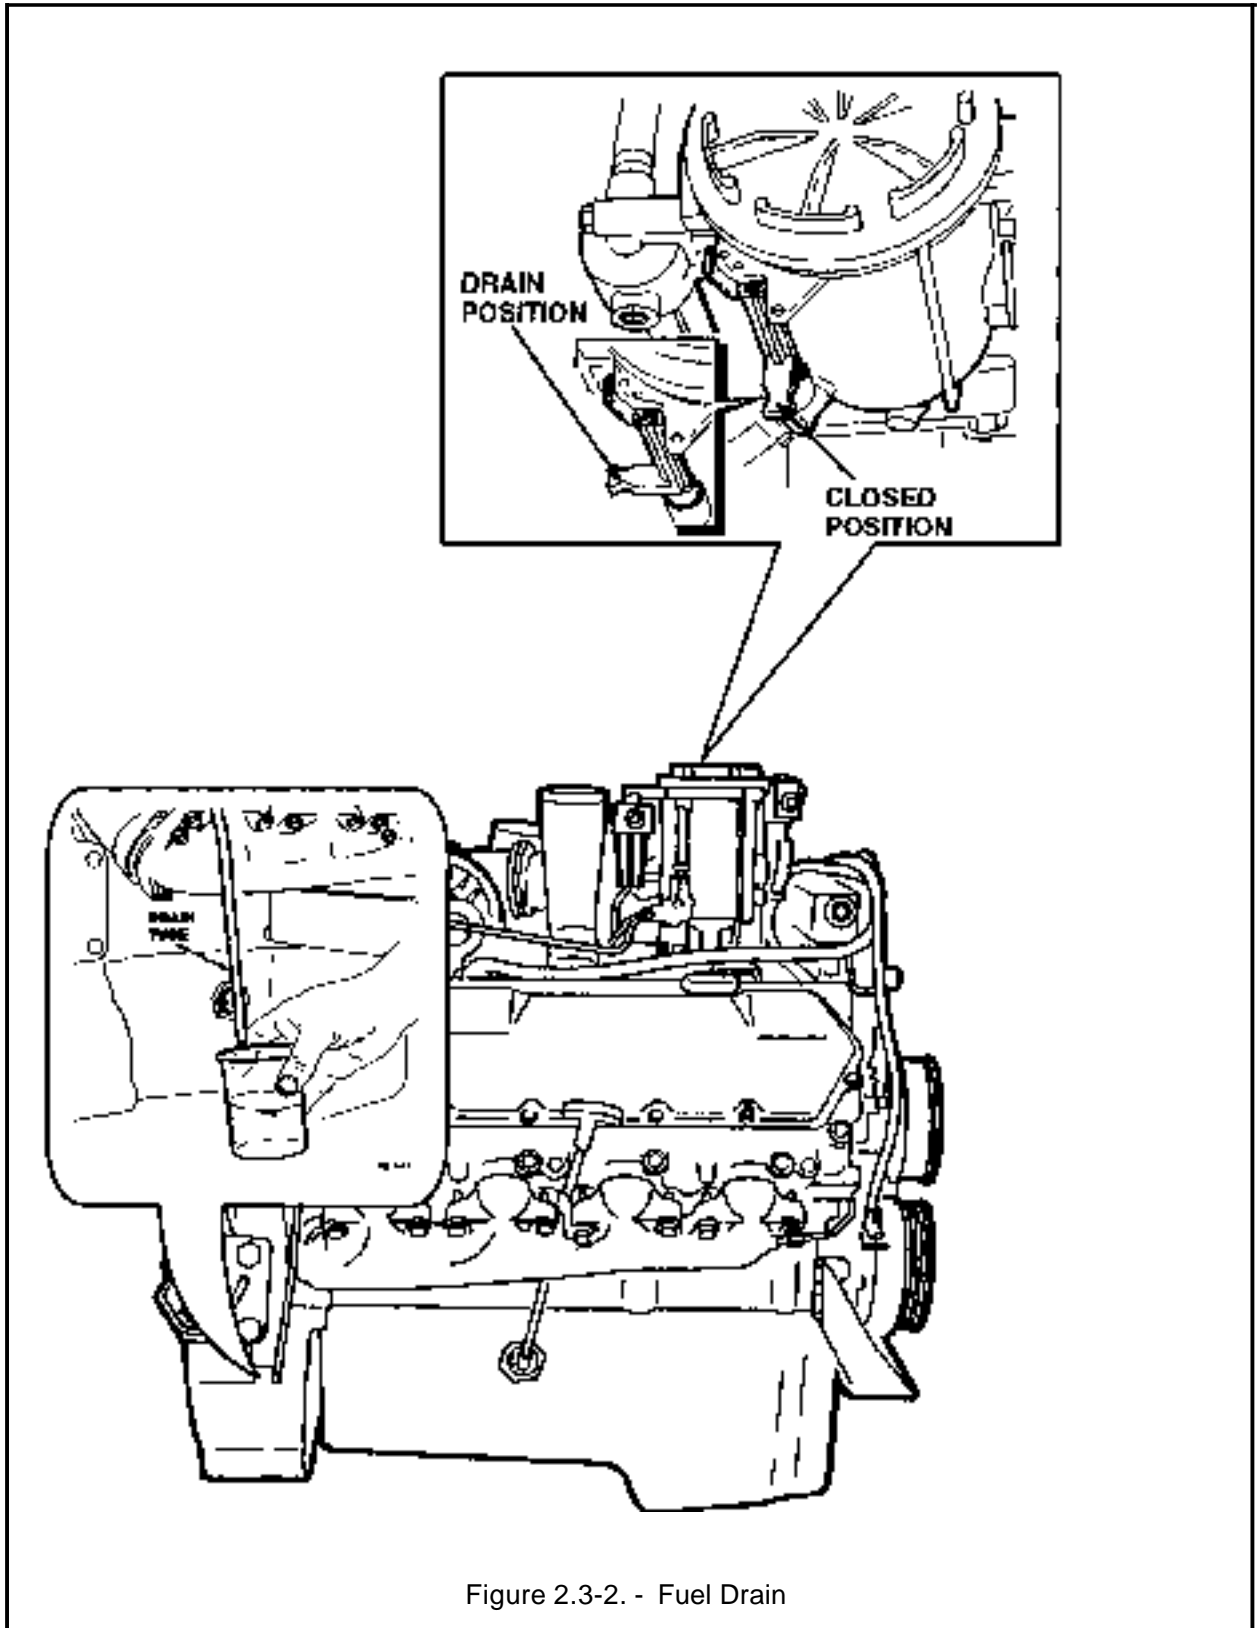

Figure 2.3-2. - Fuel Drain
1. Route a hose from the fuel drain tube (Figure 2.3-2.) to a clear container and open the drain.